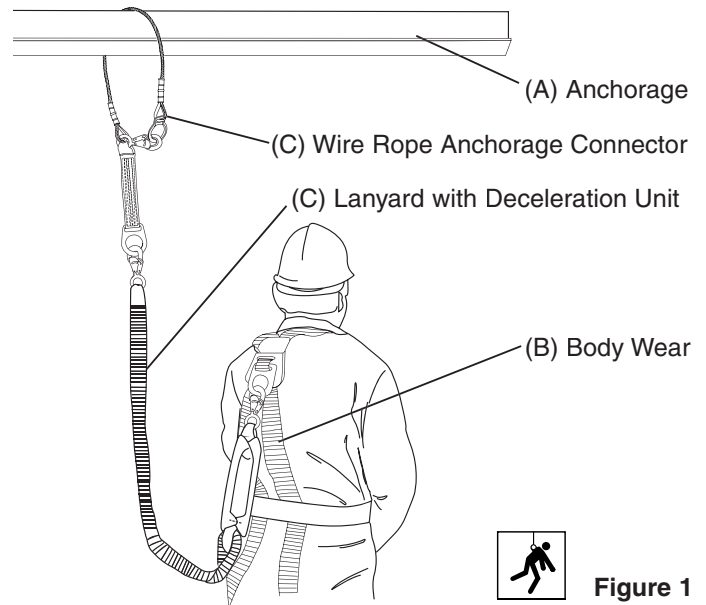

Figure 1
A typical use of a Wire Rope Anchorage Connector is shown in Figure 1. This unique connecting device provides a practical and durable anchorage attachment on many types of steel structures and transmission towers.
Klein offers two sizes of Wire Rope Anchorage Connectors. The difference between the two sizes of anchorage connectors is the length of the aircraft cable portion. The cable length for Cat. No. 87480 is 36 inches and Cat. No. 87481 is 54 inches. Lengths are measured between bearing points of the aircraft-cable eyes. Never attempt to rig the unit in any manner other than as shown in Figure 1 (see page 1), and Figures 2 and 3. Never splice or add to cable length. If a special length Wire Rope Anchorage Connector is required, contact your local Klein Distributor.
5. When using the Wire Rope Anchorage Connector in a fall-arrest system, a connecting device meeting government standards for fall-arrest, such as a lanyard or deceleration lanyard, is required. Before starting the job, the locking snap-hook on the connecting device should be attached to the rear fall-arrest D-ring on your OPE harness. Attach the locking snap-hook on the free end of your fall-arrest connecting device to the D-ring on the end of the nylon webbing of the Wire Rope Anchorage Connector (Figure 1). **Make sure by visual inspection that both snap-hooks of the connecting device freely engage both D-rings and that keepers are closed completely after each hook-up.**